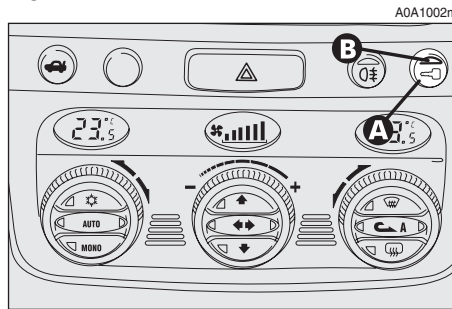

fig. 12
- To close the door, pull the flap. To prevent the door from being opened from outside press the button (**A-fig. 12**) on the dashboard, the deterrent led (**B**) on the button will turn on with a yellow light to confirm locking.